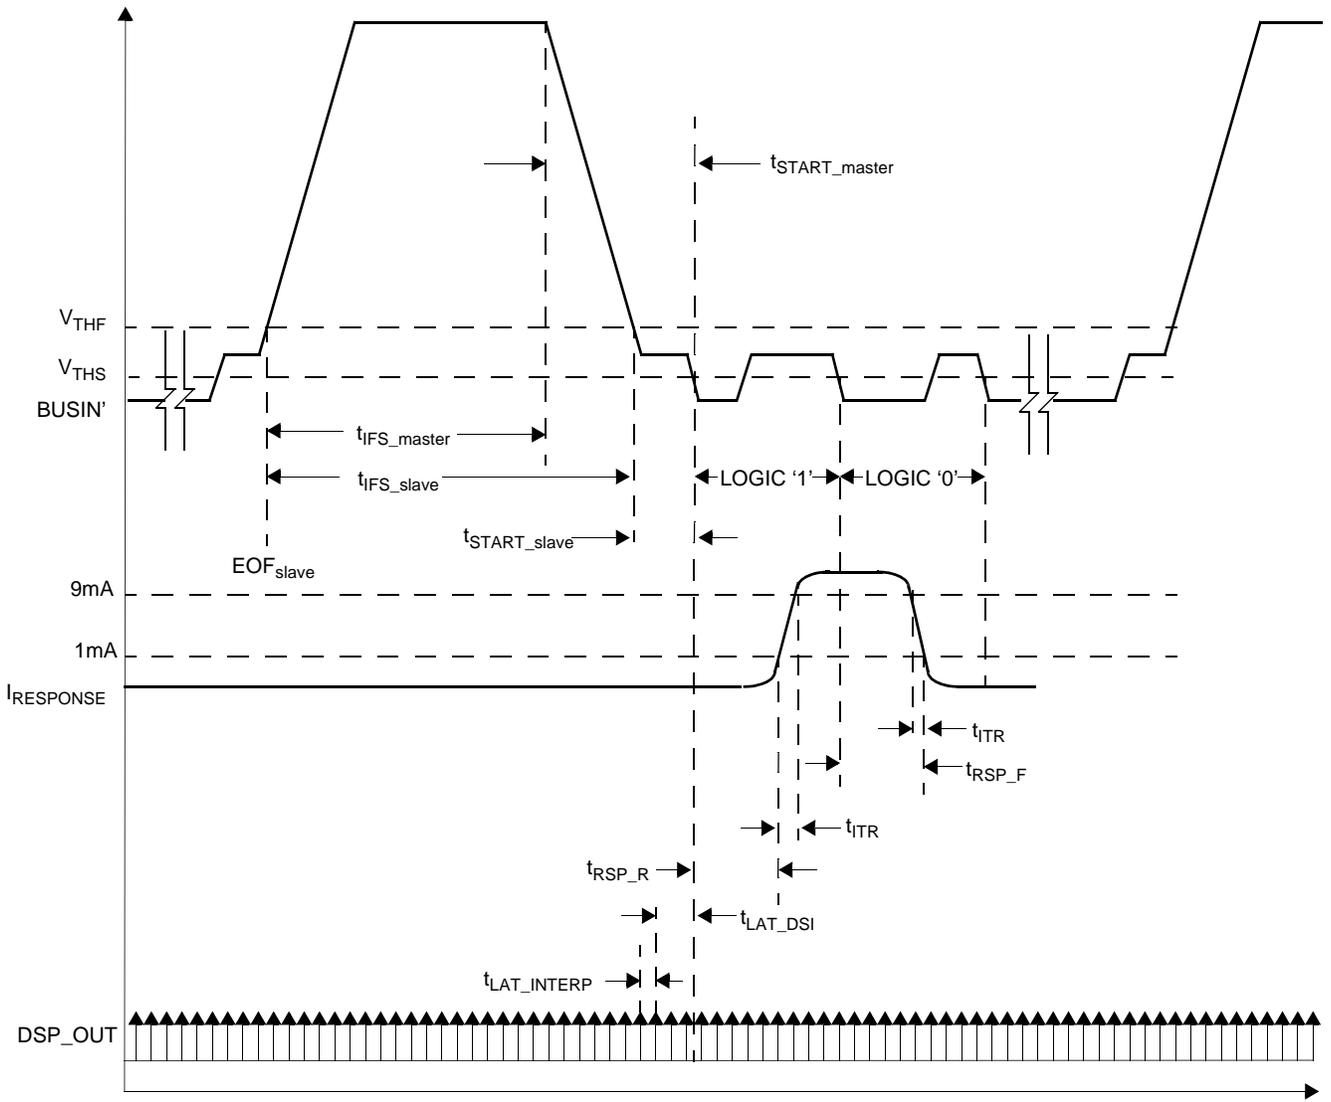

Figure 8. DSI Bus Inter-frame Timing
| 99 | Inter-frame Separation Time (See Figure 8) Following Read Write NVM Command | t_{IFS} | 12 | — | — | ms | (7) |